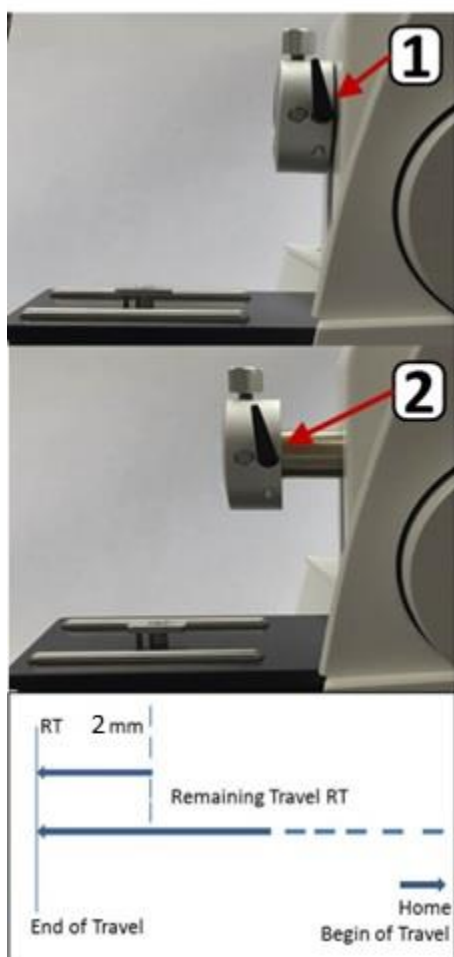

Figure 18
The picture in Fig.18 shows the Home or Begin of Travel (1) position of the specimen head and the End of Travel (2) position when the complete feed range is used. When the End of Travel is reached, no further feed movements can be carried out in the forward direction.